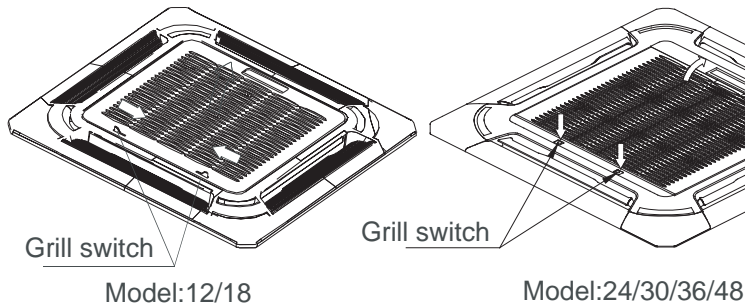

Fig.20
1. Push two grill switches to the direction at the same time, and then pull them up. (Fig.20)